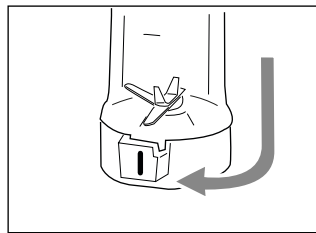

Fig. 6
- Place the container (N) on a horizontal surface with the opening facing upwards and pour in the required ingredients, cutting them into small pieces and without exceeding the maximum level marked on the container itself (400 ml).
- Place the blade set (P) on the opening of the container (N) and turn it clockwise until it locks into place (Fig. 6).